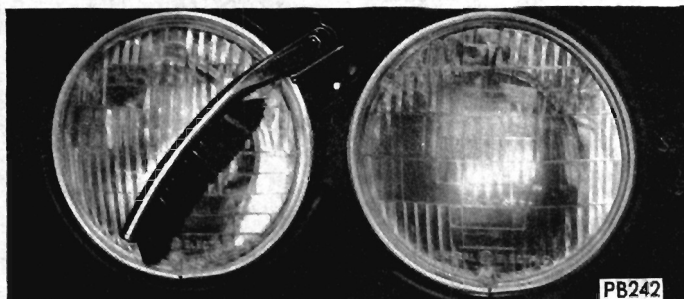

Fig. 2 - Headlamp Washers-Brush in Motion
(1) Disconnect battery ground cable.
(2) Disconnect motor leads including ground wire from harness.
(3) Rotate the hand wheel on the motor counter-clockwise if doors are closed; or clockwise if doors are open; until headlamp doors are at the halfway open position (Fig. 2).
(1) Insert torsion bar in motor and position clips on bar. The torsion bar and the hole in the motor are rectangular and can be assembled only one way.
(2) Position motor on motor mounting bracket and install mounting screws. Verify that the motor is in the halfway open position (Fig. 2). Tighten attaching screws to 95 inch pounds, plus or minus 20 inch pounds.
(3) Position and fully seat torsion bar in slotted areas of cranks. Compress clips and position over cranks and torsion bar.
(4) Connect motor to harness and connect battery ground strap.
(5) Test operation of doors.